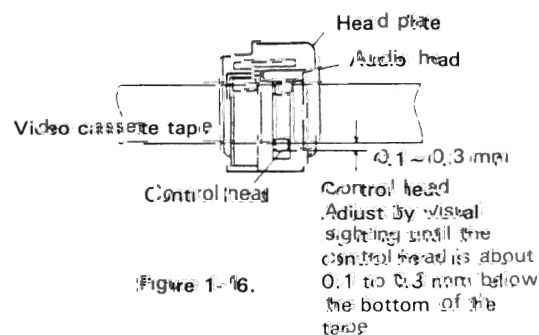
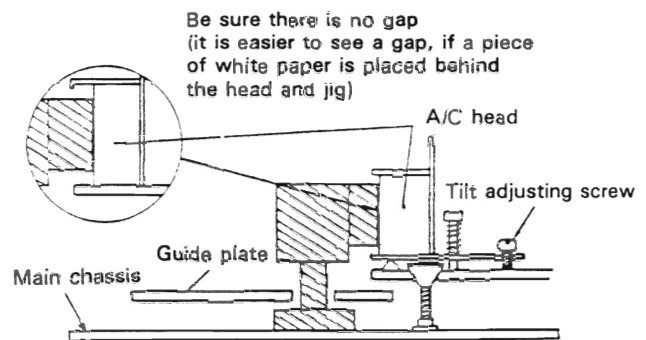

Figure 1-16.
Figure 1-19.
• Replacement (See Figs. 1-16 and 1-17)
2. Loosen the tilt adjusting screw ② by using a philips screwdriver.
3. Remove the azimuth adjusting screw ⑤ (3P + 8S) with a philips screwdriver.
4. Remove the A/C head screw ④ with a philips screwdriver, paying attention to the spring ⑦ between the A/C head screw ④ and A/C head assembly ①.
6. The A/C head assembly ① is attached so that the A/C head arm and A/C head plate stand are roughly parallel to one another.
7. Set the A/C head tilt according to Fig. 1-19.
8. Play an alignment tape and roughly adjust the height of the A/C head, by eye, by turning the A/C head adjusting hexagon nut with the special nut driver until the tape comes to the position shown below. (See Fig. 1-16).
2. Set the tilt angle of the audio/control head as shown in Fig. 1-19.